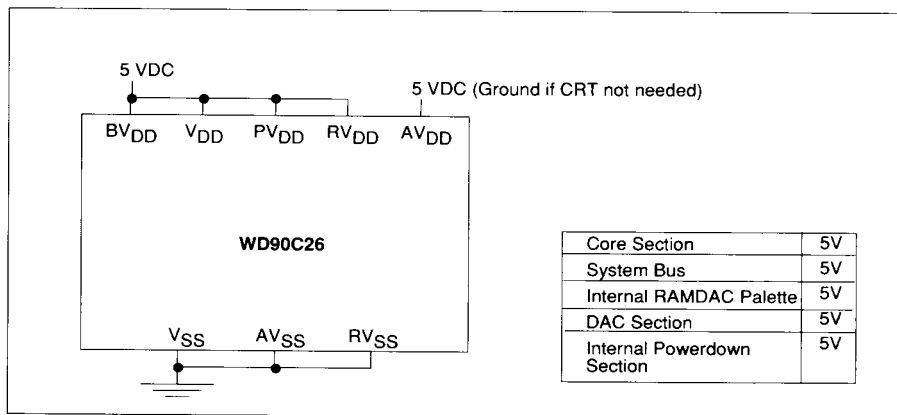

FIGURE 6-3 POWER CONFIGURATION FOR 5 VDC OPERATION
- Power Configuration for 5.0 VDC Operation (Figure 6-3)
The WD90C26 may be operated at 5 VDC by connecting all its  $V_{DD}$  pins to a 5 VDC power source (see Figure 6-3).